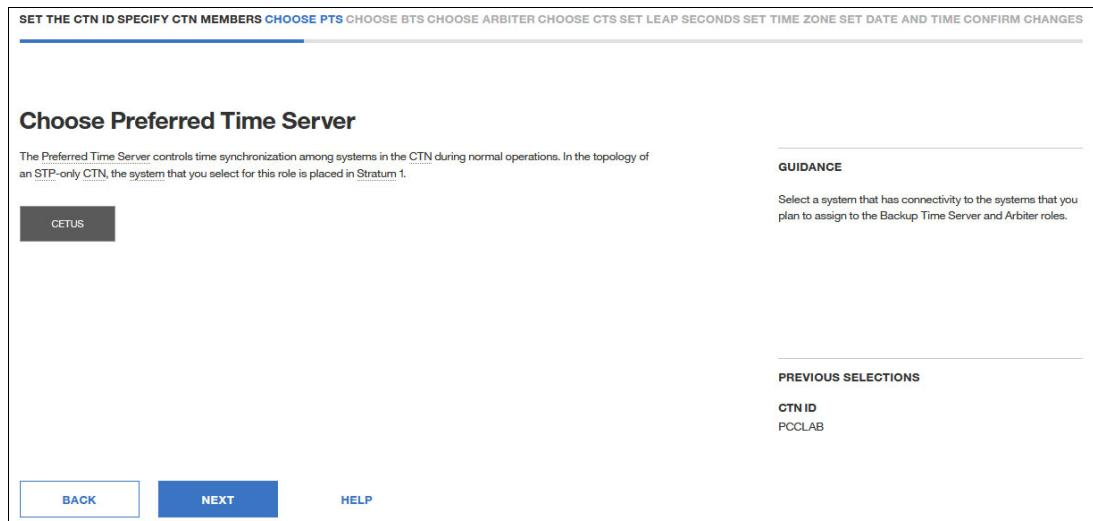

Figure 8-36 Manage System Time: Choose Preferred Time Server
5. The **Choose Preferred Time Server** window opens. Select the CPC name for PTS (Figure 8-36).